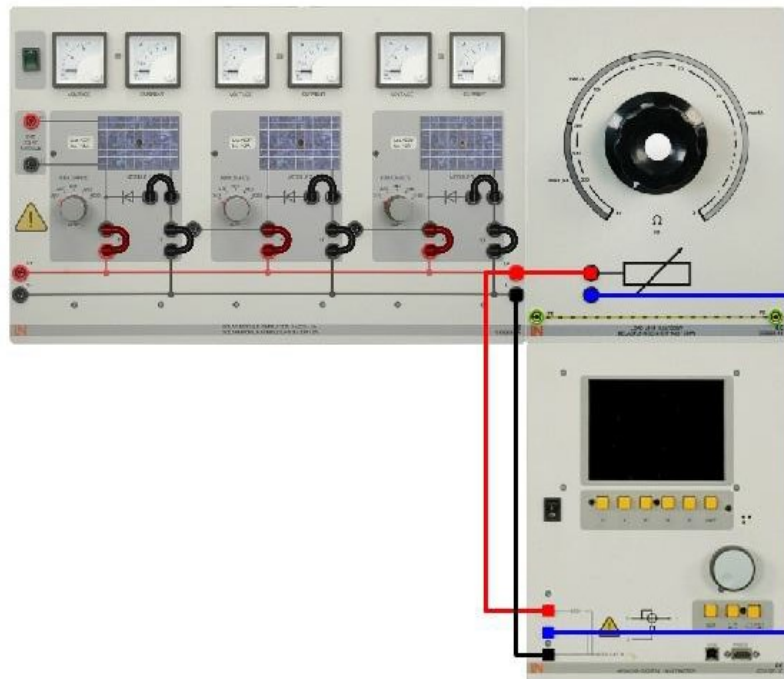

Fig. 3.7.2
7. As shown in Fig. 3.7.2, modify the experimental configuration by connecting bypass diodes in parallel with the solar module simulations.